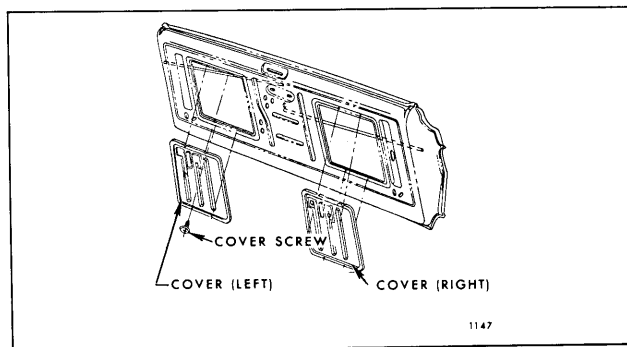

Fig. 9-3—Tail Gate Inner Panel Access Hole Covers
2. Remove screws securing right and left access hole covers to tail gate inner panel and remove covers (See Fig. 9-3).